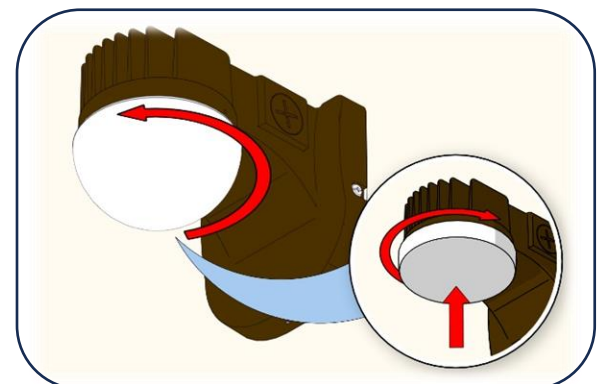

Figure 7
2. Unscrew the lens counterclockwise and remove. [Figure 7]